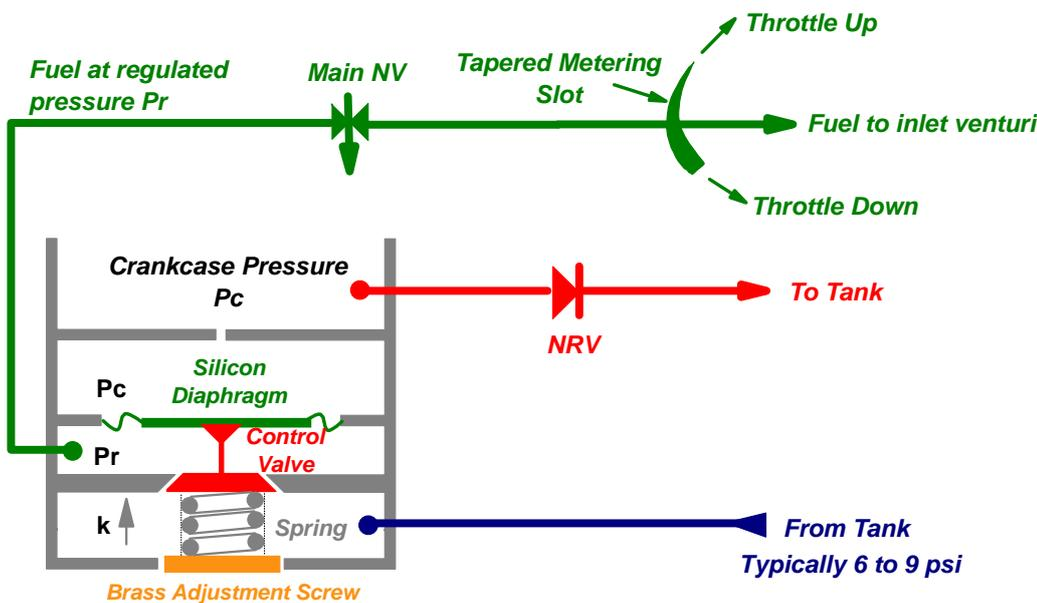

Fig 1: Diagrammatic representation of early YS pressure regulator system
As a competitor in the late 80's I was fortunate to own several of the early YS60 2 strokes, both rear (RE) and side (SE) exhaust. Although they all proved to be highly reliable, I succumbed to temptation and stripped one of the older units down to get a better feel for how it operated! A computerised version of my original freehand sketch is reproduced as Fig 1.
In the "Dingo", the regulated pressure to the needle valve assembly is controlled by adjusting the amount of "kickback" from the delivery to the suction of the positive displacement pump. Turning the Brass Adjustment Screw clockwise, decreases the amount of kickback and increases the delivery pressure thus richening the mixture (i.e. the opposite effect to the earlier pressurised tank designs!) Note also, that when filling the tank it is possible to pass fuel straight through the pump and its inlet and outlet NRV's into the needle valve assembly. Hence the need to avoid engine flooding by blocking or disconnecting the pump suction line when refuelling the tank. (In the earlier designs – see Fig 1 - loss of crankcase pressure with the engine stopped caused the control valve to move upwards effectively blocking the delivery from the tank.)